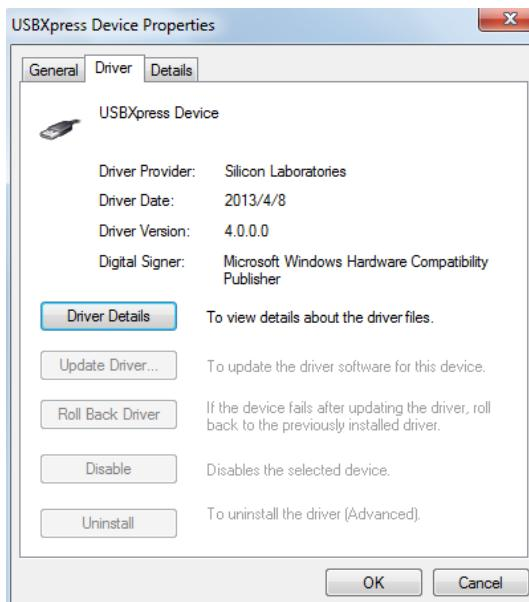

Figure 18: Correct Driver Version
If the PC is running Windows 10, check the driver version of USBXpress Device. Windows 10 automatically installs the older USB driver, which is not compatible. The correct driver version is 4.0.0.0 (see Figure 18).
2. Connect the EVKT-USBI2C-02 or EVKT-USBSPI-00 communication interface to the PC with a USB cable (see Figure 18 on page 16).